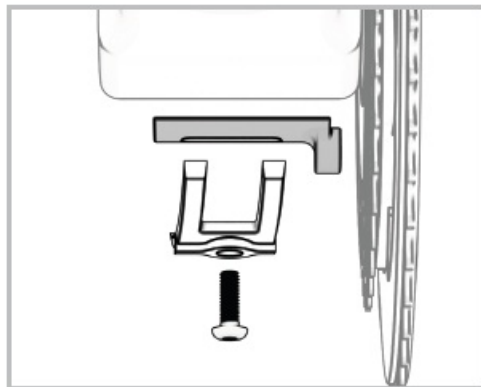

FIG. 8
- Remove the cable guide bolt and install the magnet under the cable guide (Fig. 8).